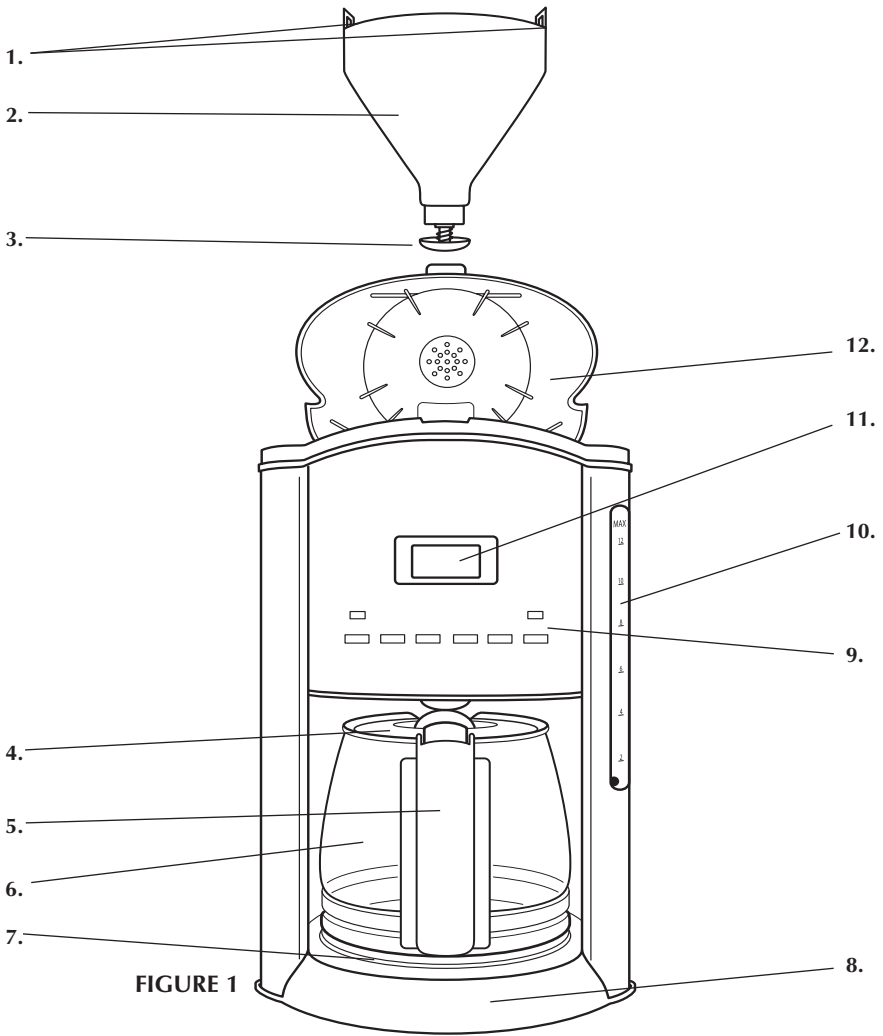

FIGURE 1
2. Open the Lid by using the lip located on top of the Coffeemaker. (See Figure 1.)